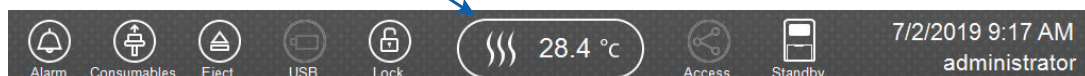

Figure 8. Preheating Oven.
2. Select the **Oven Temperature** icon in the Header on the 'Main Menu' screen as shown in Figure 8 to start preheating the oven temperature to 60°C. The temperature displayed will change as the temperature of the oven increases. When 60°C is reached a check mark will appear adjacent to the temperature.